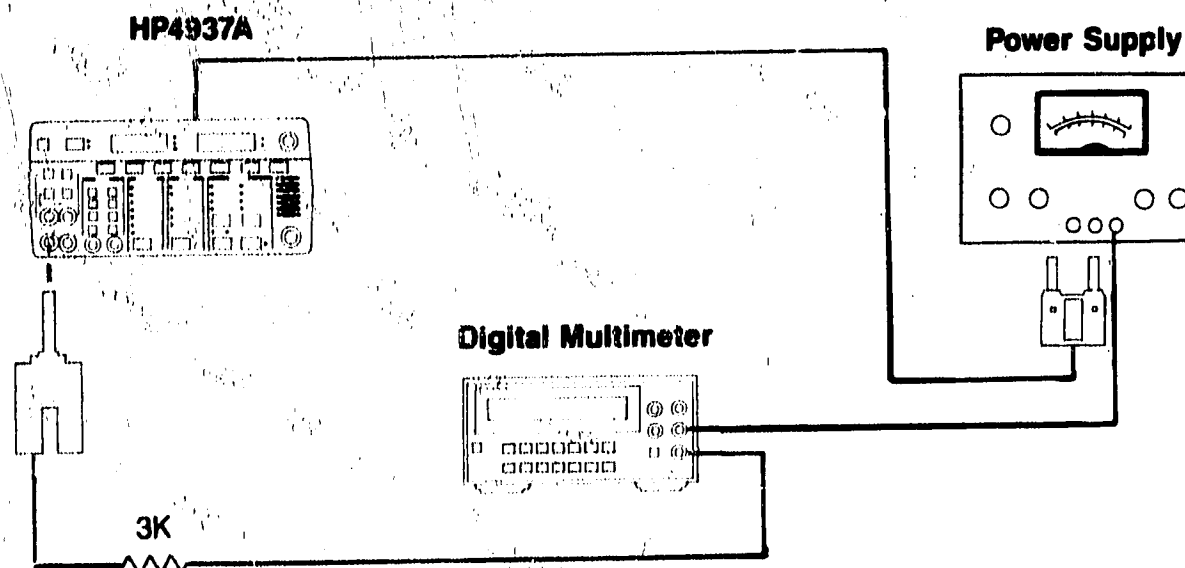

Figure 4-15. E/M Signaling Type I
7. Connect the equipment as shown in Figure 4-15.